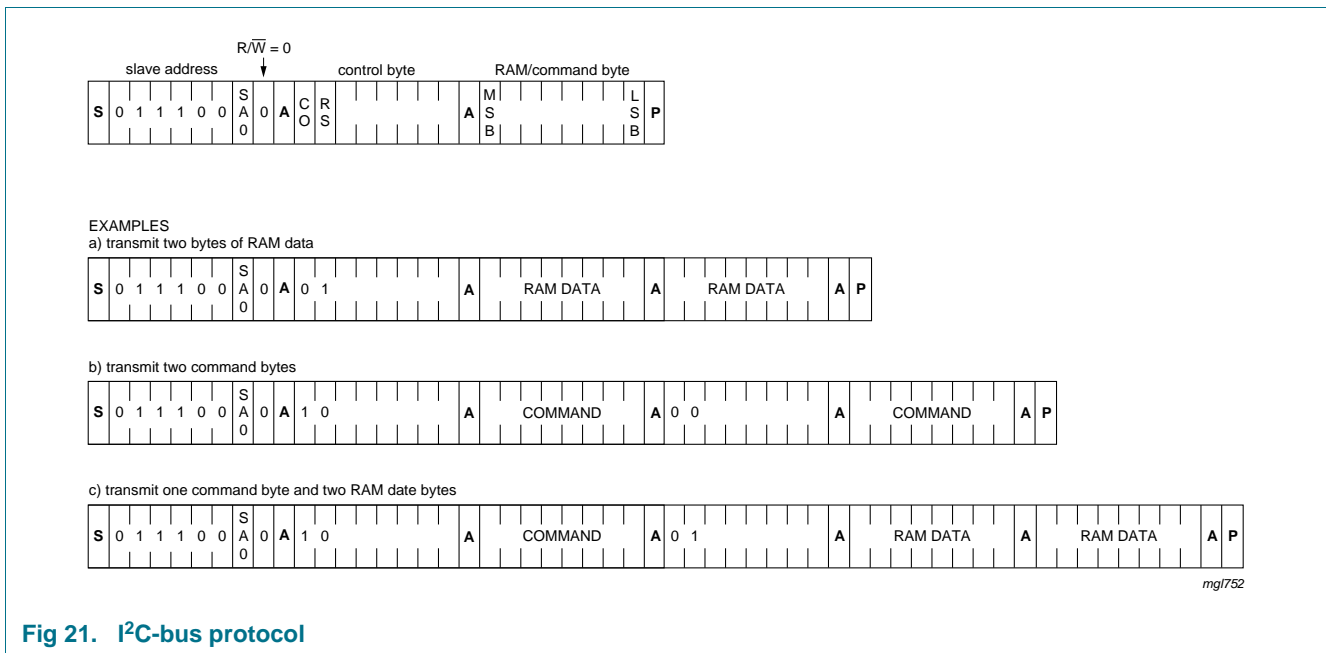

Fig 21. I²C-bus protocol
The I²C-bus protocol is shown in Figure 21. The sequence is initiated with a START condition (S) from the I²C-bus master which is followed by one of two possible PCF8532 slave addresses available. All PCF8532 with the corresponding SA0 level acknowledge in parallel to the slave address, but all PCF8532 with the alternative SA0 level ignore the whole I²C-bus transfer.